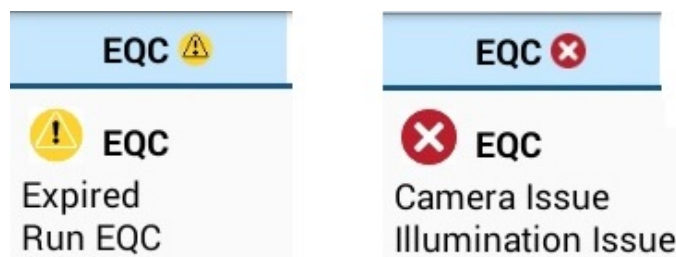

Figure 50 – The Quality Control screen. LQC testing is not allowed, either because the EQC interval timer expired or because the previous EQC test failed.
- **View** details of the test result – Select . Details of the test result are displayed. See Figure 50.